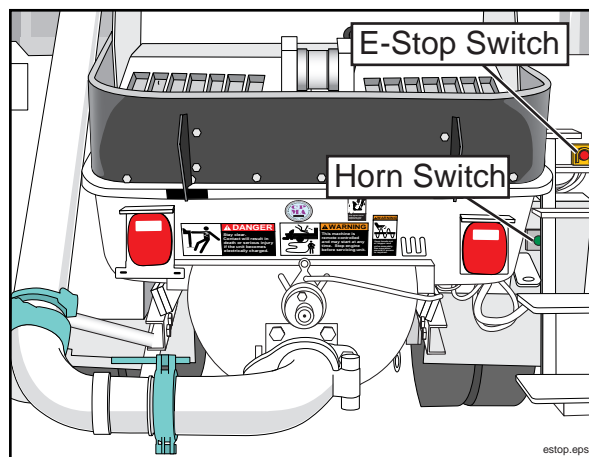

Figure 10
4.3 ⚠️ WARNING! Hose whipping and other hazards. You must know how to stop the pump in an emergency. Have the operator show you the locations of the emergency stop switches and how they work. If an emergency arises, hit the (see top) switch, then tell the operator about the problem. See Figure 10.
4.4 ⚠️ WARNING! Hose whipping and other hazards. You must know how to signal the pump operator to stop the pump if you can't keep enough concrete in the hopper. Some pumps are equipped with horn buttons on the rear of the pump. (See Figure 10.) Have the operator show you how to signal them. Use the emergency stop switch only if you can't get the operator's attention, because there is a restarting procedure from emergency stop that may cause delays. In spite of the restarting procedure, do not hesitate to use the emergency stop if the need arises.